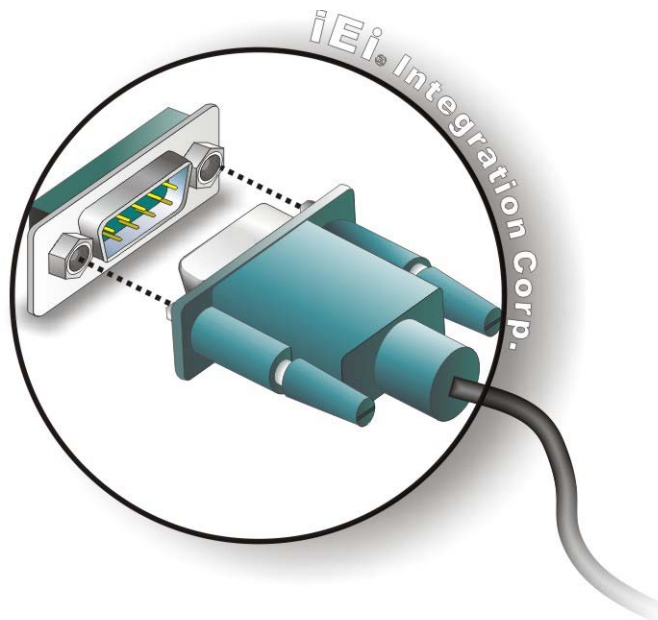

Figure 4-20: Serial Device Connection
Step 2: Insert the serial connector. Insert the DB-9 connector of a serial device into the DB-9 connector on the external peripheral interface. See **Figure 4-20**.